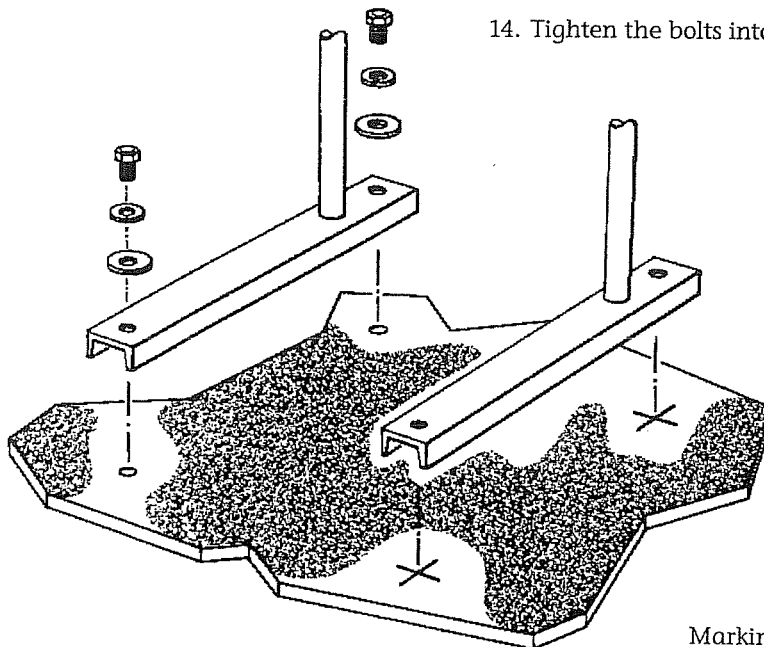

Figure 2-8
- Mark the floor through the four holes in the floor-mounting legs. (Figure 2-8)
- Using lock washers and washers on each bolt, insert the bolts through the floor-mounting legs and into the anchors. (Figure 2-8)